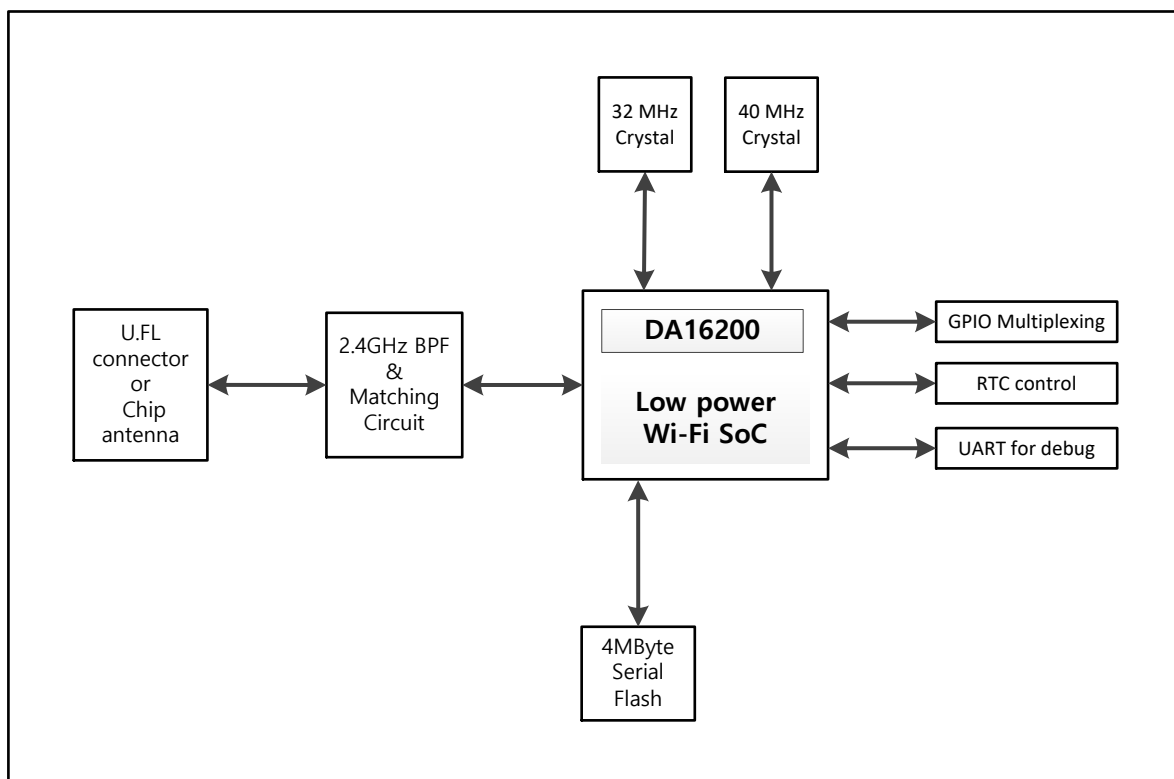

Figure 1: DA16200MOD Block Diagram
Figure 1 shows the DA16200MOD hardware (HW) block diagram.